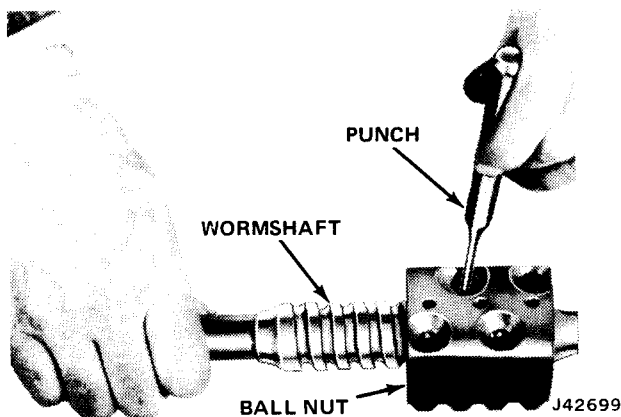

Fig. 11-55 Filling Ball Circuits
(1) Position ball nut on wormshaft so deep side teeth will be toward side cover when shaft is installed in housing.
(2) Install 20 balls in each circuit. Rock wormshaft back and forth to aid in installation. Use punch to install balls (fig. 11-55).